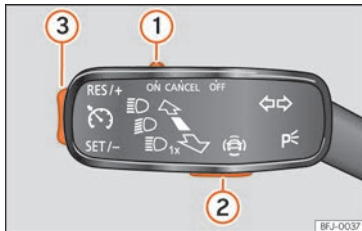

Fig. 254 On the turn signal lever: buttons to operate the speed limiter.
To change between the driving assistance systems, press button  »» Fig. 254 ②, then select with the right thumbwheel on the multi-function steering wheel in the instrument panel menu and press the thumbwheel to confirm your selection.
- Move control »» Fig. 254 ① to position **ON** and press button ②.
- While driving, press button »» Fig. 254 ③ in the area **SET/-**.
You can set the speed using button »» Fig. 254 ③:
- Move control »» Fig. 254 ① to position **OFF**.
If you want to temporarily deactivate the speed limiter, e.g. for overtaking, move the control »» Fig. 254 ① to position **CANCEL** or press button ②.
After overtaking, the speed limiter can be activated with the previously programmed speed by pressing button »» Fig. 254 ③ in the area **RES/+**.